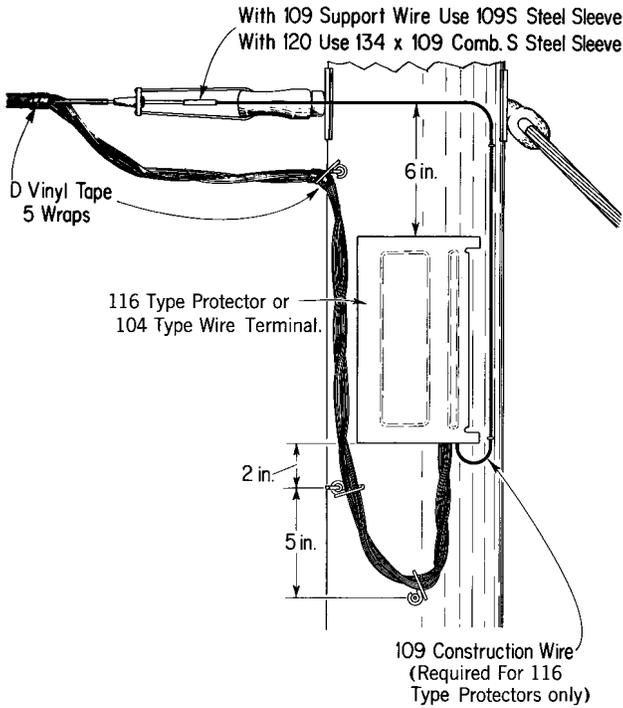

Fig. 12 – At Wire Deadend Pole
**4.01** At wire deadend poles, 6-pair wire terminals or protectors can be located as shown in Fig. 12.